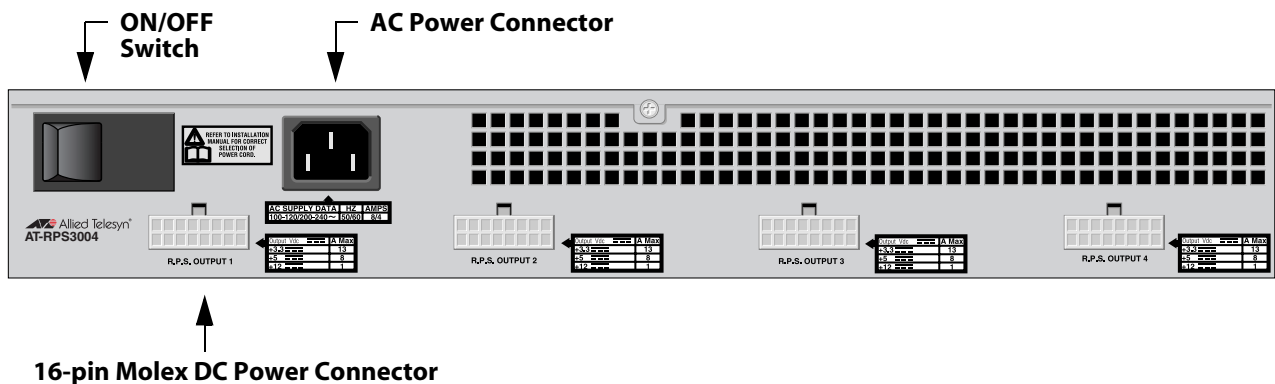

Figure 28. AT-RPS3004 Unit Back Panel
7. Attach the provided DC power cord to the DC output connector on the back panel of the AT-RPS3004 power supply. Refer to Figure 28 for the DC output connector.
9. Plug the AC power cord for the AT-RPS3004 into the AC connector on the back panel of the unit. Refer to Figure 28 for the AC connector.
11. Turn on the AT-RPS3004 using the switch on the back panel of the unit. Refer to Figure 28 for the ON/OFF switch.